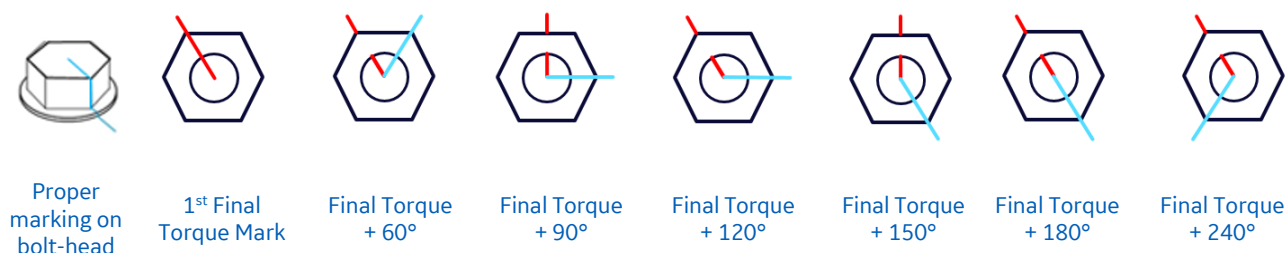

Figure 1: Marking examples for Tower Bolts, Rotor Bolts & Blade Bolts
7. All fasteners must be marked with a single line with an oil-based paint marker. See Figure 1:
- Apply a “1st Final Torque Mark” torque mark per Figure 1 to all bolt heads around the flange.
- Apply a “1st Final Torque Mark” torque mark per Figure 1. Mark to all bolt heads around the flange.